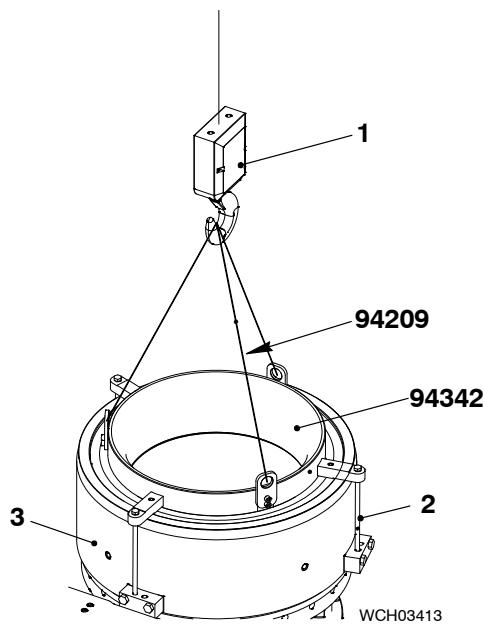
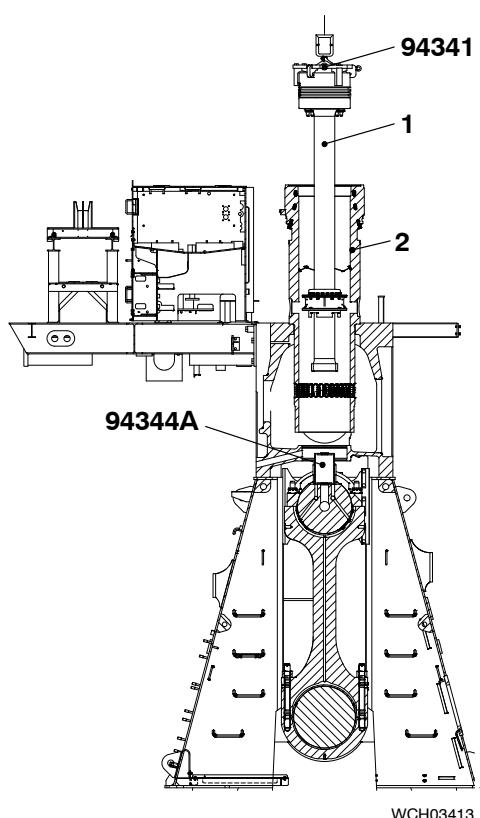

Fig. 12
Fig. 13
- 6) Put oil on the surfaces of the positioner tool (94342, Fig. 12).
- 10) Operate the crane to put the positioner tool (94342) in position on the cylinder liner (3). Lock the tool in position with the three bolts (2).
- 11) Make sure that the spacer (94344A, Fig. 13) is in position on the crosshead pin.
19) Move the piston (1, Fig.13) into position above the cylinder liner (2).